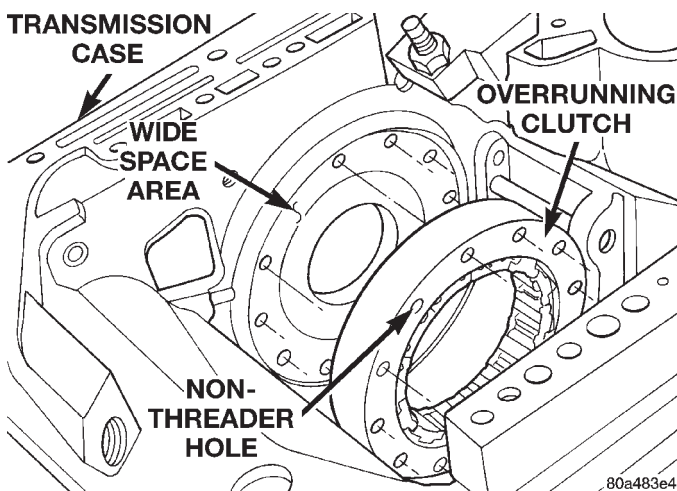

Fig. 93 Clutch Cam Alignment
(5) Examine bolt holes in overrunning clutch cam. Note that one hole is **not threaded** (Fig. 93). This hole must align with blank area in clutch cam bolt circle.